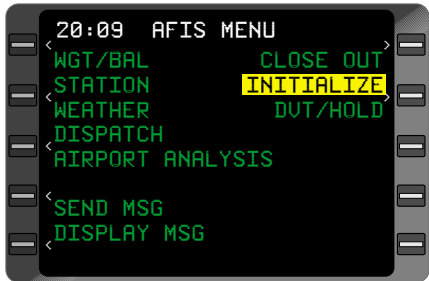

Figure 8-33
- Line Select Key - DEPRESS to position the cursor over **INITIALIZE**. See Figure 8-33.